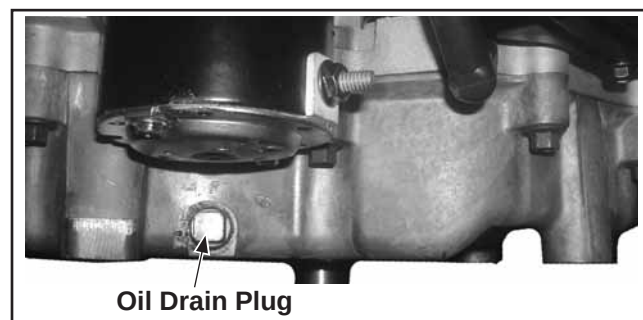

Figure 6-5. Oil Drain Plug Location.
1. The drain plug is located on the starter side of the oil pan. See Figure 6-5. Clean the area around the oil drain plug and the oil fill cap/dipstick.